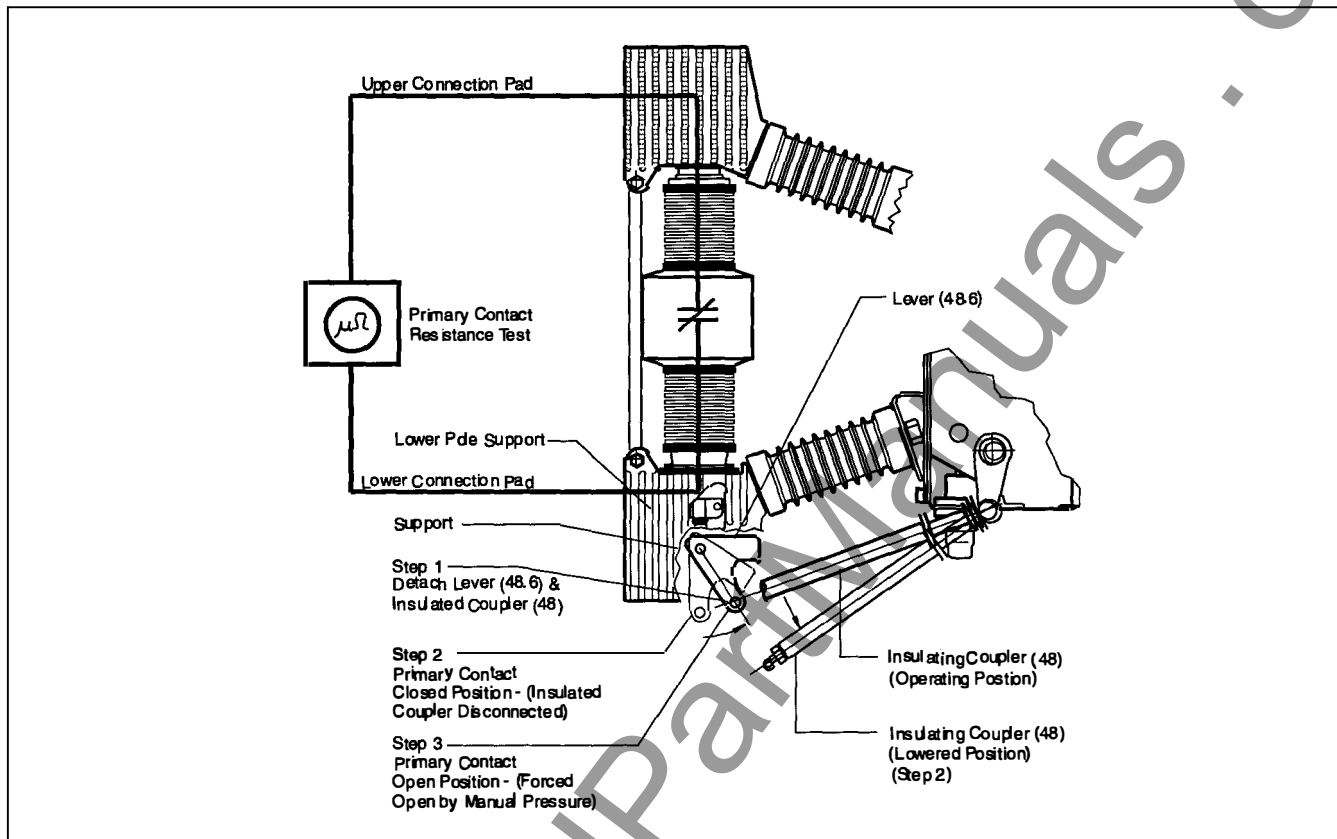

Figure 18. Circuit Breaker Pole Assembly / Vacuum Check Mechanical / Contact Resistance Test
Vacuum Integrity Check (using Mechanical Test) (Figure 18)
Open and isolate the circuit breaker and detach the insulating coupler (48) from lever (48.6) (Figure 18).
The atmospheric pressure will force the moving contact of a hermetically sealed vacuum interrupter into the "Closed" position, causing lever (48.6) to move into the position shown in Figure 18.
An appreciable closing force has to be overcome when lever (48.6) is moved to the "Open" position by hand (Figure 18). When the lever is released, it must automatically return to the "Closed" position with an audible sound as the contacts touch.
After checking the vacuum, reconnect the lever (48.6) to the insulating coupler (48) (Figure 18).
10. Perform contact resistance tests of the primary contacts. The resistance should be read between the lower and upper connection pads (**Figure 18**). Contact resistance should not exceed the values listed in **Table 5**.